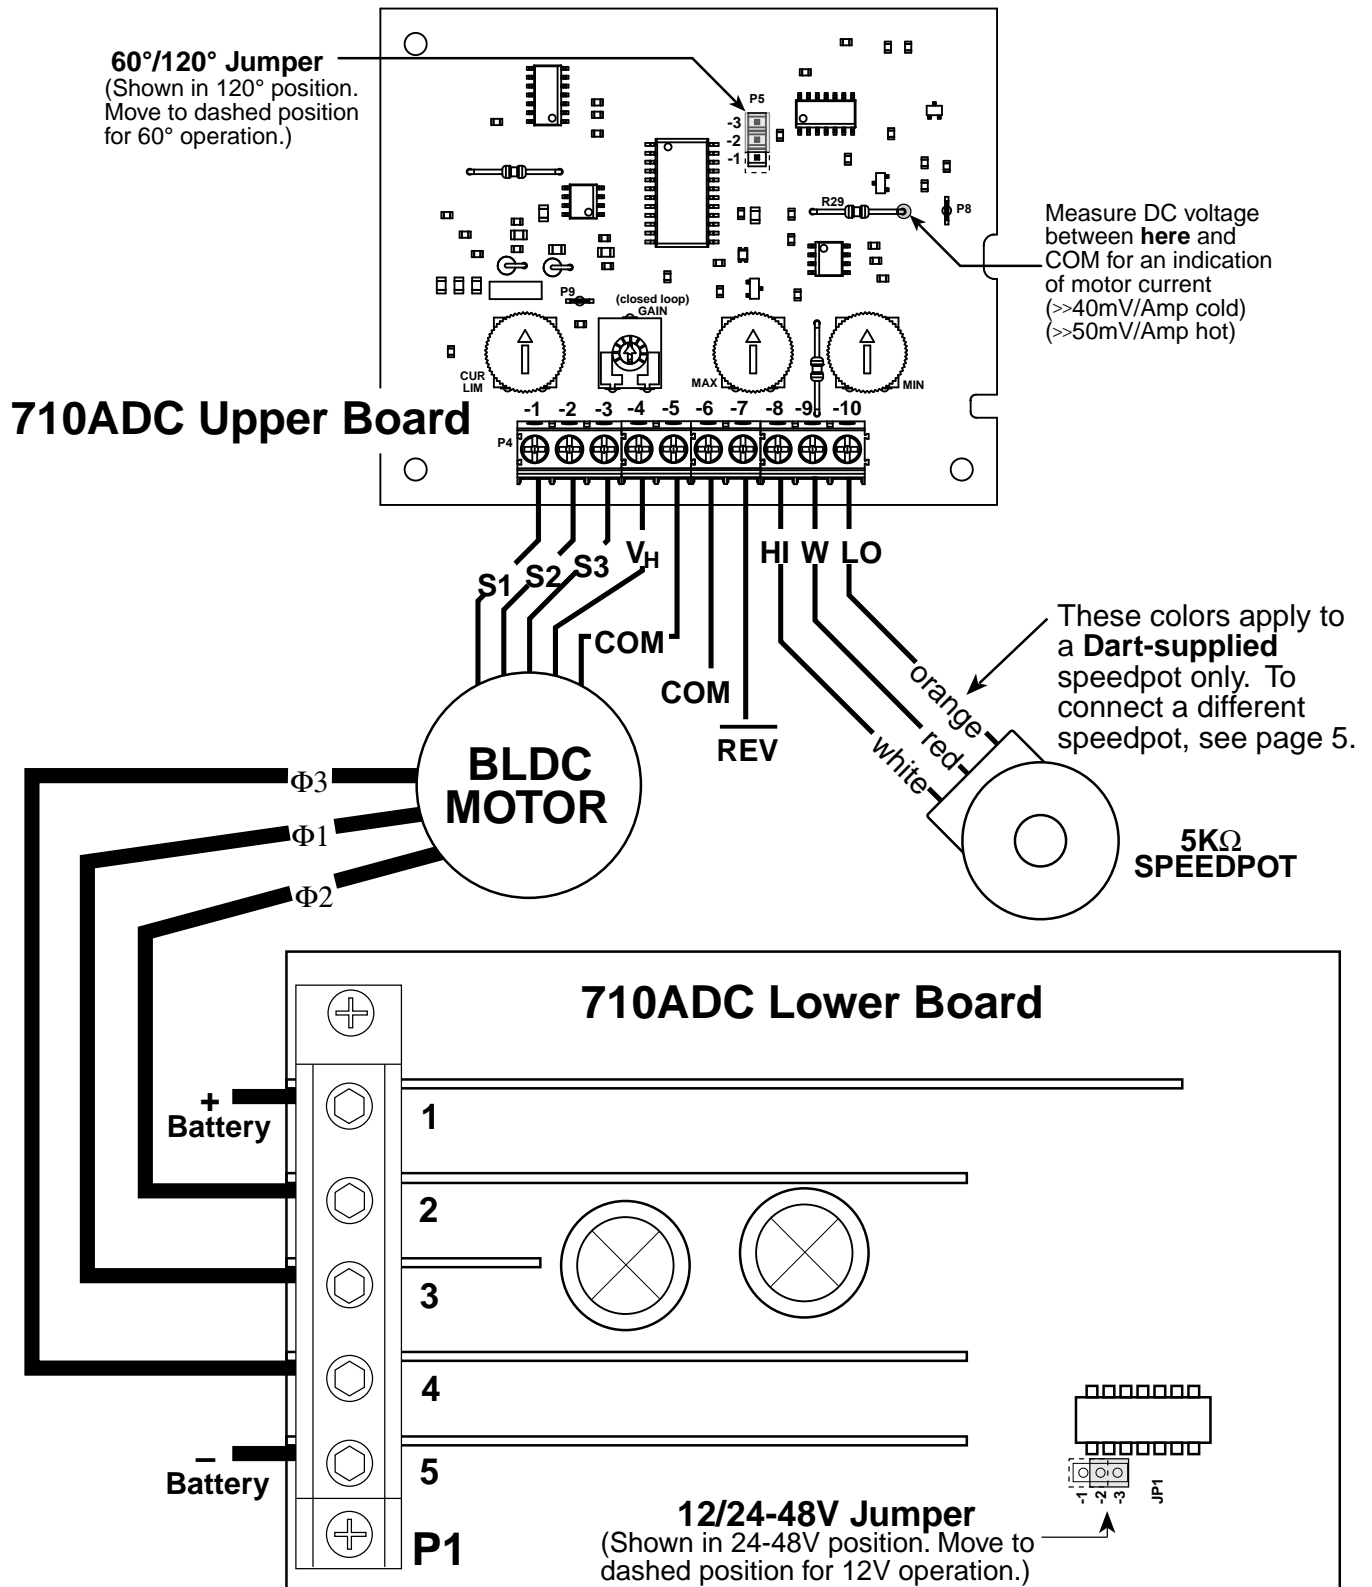

Figure 1
All BLDC motors, no matter what the hook-up status, are connected to the 710A Series control as shown in figure 1 (page 4). Power is connected to terminals P1-1 and P1-5 on the lower board. The power should be off until the hook-up procedure is complete.
There is a jumper on the **lower board** to accommodate two ranges of dc source voltage. This jumper is shown near the bottom of Figure 1 (page 4). If you have a 12 volt DC source, the jumper must be placed in the left-most (dashed) position, as illustrated in Figure 1. With DC sources from 24 to 48 volts, the jumper must be placed in the right-most (solid) position, which is also illustrated in Figure 1.
There is a jumper on the **upper board** to switch between 60° and 120° Hall sensor spacings. This jumper is shown in the upper left portion of Figure 1 (page 4). Place this jumper in the left-most (dashed) position for 60° operation, or in the right-most (solid) position for 120° operation.
Once the spacing is determined, return to the section "60°/120° Sensor Spacing" (page 5 above) and make sure the control is set correctly. Return to Figure 1 and connect the sensors to terminals P4-1 through P4-3. Notice that for the 60 degree spacing there is a specific sensor line that leads the sequence, followed by a line lagging by 60 degrees, and a third line lagging the second by 60 degrees. It is important that the middle line in the train be connected to terminal P4-2.
After the sensors are connected, attach the sensor power line (notated by V_H in Figure 1) to terminal P4-4. The sensor common line (notated by COM in Figure 1) is connected to terminal P4-5. Now attach the three motor armature wires and test for proper hook-up.
- 1) Refer to figure 1 on page 4. Measure the DC voltage (with reference towards COM) at the point indicated on the upper board, then divide by 40mV to obtain the motor current in amperes.
Controls designated 711ADC are closed loop devices. These controls use additional circuits to transform the sensor signals into tachometer information, and accurately control the speed of the motor. Hook-up procedures are identical to the open loop series, however, there is an extra trimpot labeled **Closed Loop Gain** (Shown in Figure 1 on page 4). This allows the flexibility to properly control motors in a wide spectrum of speeds.
- 1) Set the Maximum Speed (MAX.) trimpot to the position shown in Figure 1 on page 4.
- 3) Advance your speedpot to the fully clockwise (CW) position. Your motor should now be spinning at its maximum speed.*